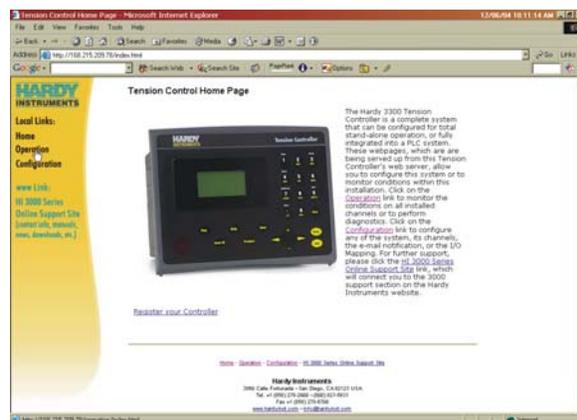

FIG. 3-22 HI 3300 HOME PAGE/SELECTING OPERATION
- Step 3. The HI 3300 Tension Controller Home Page appears. (See Fig. 3-22)